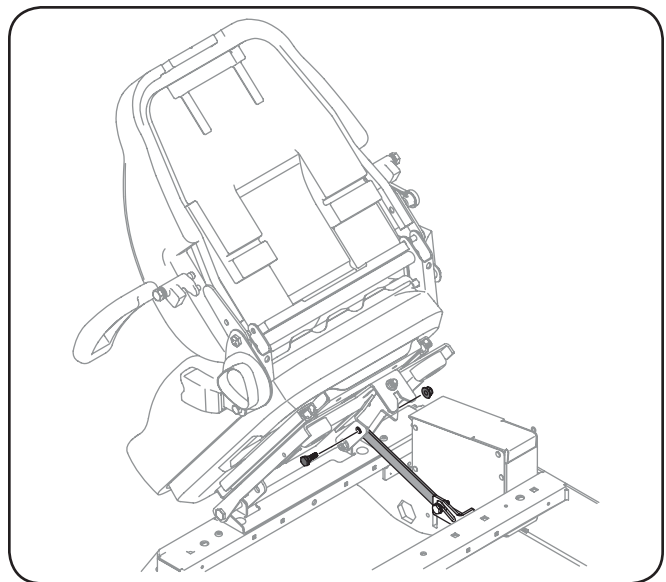

Figure 3-11
3. Remove the shoulder screw and flange lock nut from manual bag and install the seat lockout bracket as shown in Figure 3-11.